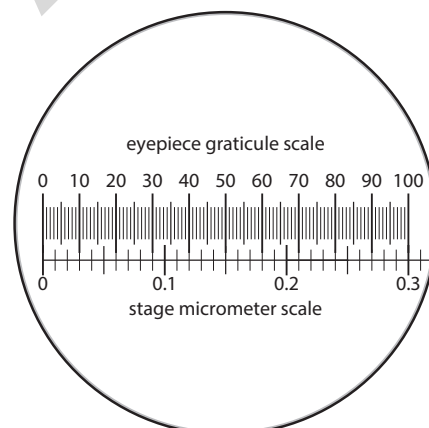

Figure 1.6
- 2 Look down the eyepiece and focus on the stage micrometer scale. Move the eyepiece and/or the slide until the eyepiece graticule scale and the stage micrometer scale lie exactly next to each other, as shown in Figure 1.6.
- 3** Look for a good alignment of marks on the two scales, as far apart as possible. In the example in Figure 1.6, there is alignment at 0, 0 and at 80 on the eyepiece graticule scale and 0.24 on the stage micrometer scale.